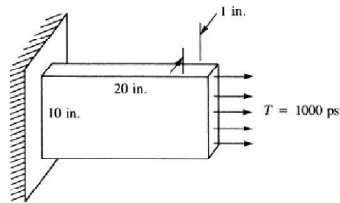

Figure 9
- Q3** For a thin plate subjected to the surface traction shown in Figure 9, determine the nodal displacements and the element stresses. The plate thickness $t=1$ in., $E=30 \times 10^6$ psi, and $\mu= 0.30$. **(16)**